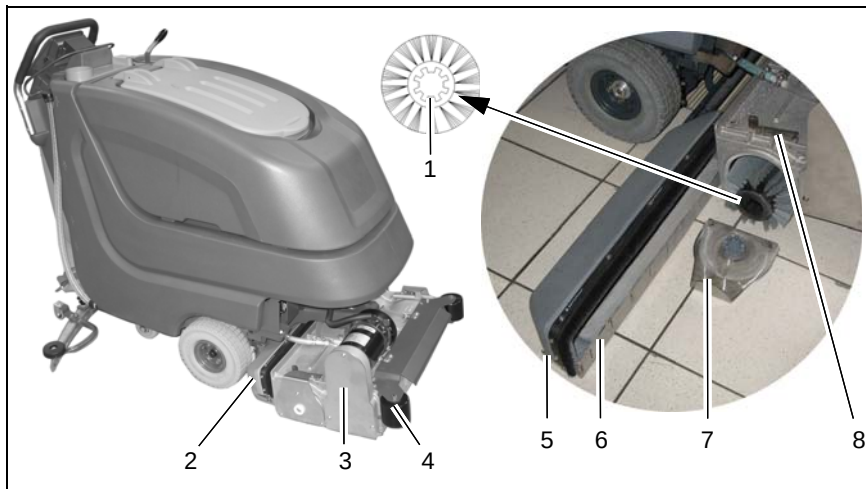

Fig.11
Clean dirt hopper (Fig. 11/2) at daily intervals or as required.
Remove dirt hopper from the right machine side (seen in direction of travel). Use quick-release (Fig. 11/5) to loosen feed inlet (Fig. 11/6) and clean dirt hopper.
1. Release brush seating (Fig. 11/7) by locking lever (Fig. 11/8).
1. Insert brush into brush deck and let it catch (brush toothing (Fig. 11/1)) as to point to the outside).
Check deflector rollers (Fig. 11/4) at weekly intervals and replace if required.